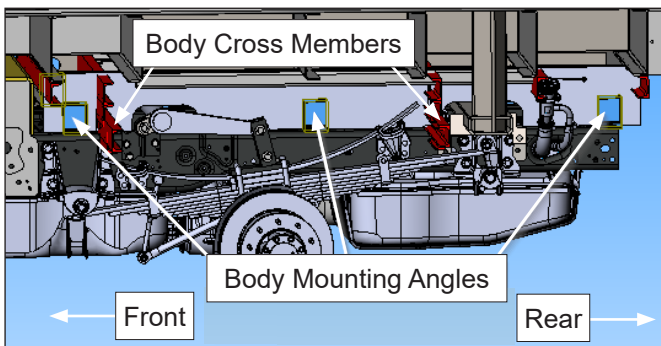
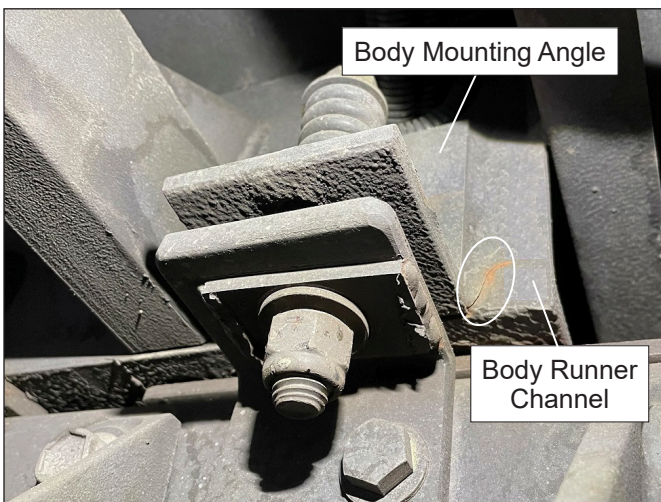

Figure 6 — Street Side Areas to Inspect
Figure 8 — Example of Cracking in Body Mounting Angle Weld
5. Remove any dirt and debris from the fillet welds along the body mounting angles and the fillet welds at the ends of the body cross members on the street side and curb side (refer to Figures 6 and 7). Using a flashlight, if necessary, inspect for any cracking in these welds (refer to Figures 8 and 9). Mark Results 5 through 9 in Figure 10 as "No" if there is no cracking and "Yes" if there is any cracking at a specified location.
35. Find the corresponding cracked fillet weld location on the chassis (refer to Figures 8 and 9). Using a flashlight, if necessary, examine the crack. If the crack is only in the weld, proceed to step 38. If the crack has extended out of the weld into the parent material, proceed to step 36.
- Drill an $\frac{1}{64}$ " hole if the crack is on a body runner channel (refer to Figure 8).